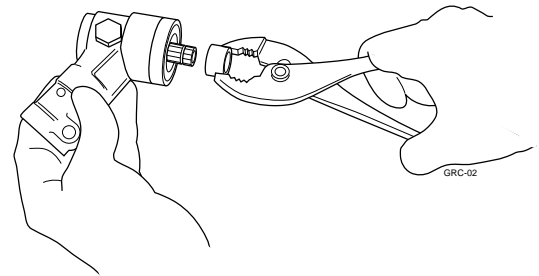

Figure 11.2 Removing the shaft collar.
STEP 1. Remove the cutting attachment and blade holders. Use slip-joint pliers to withdraw the shaft collar (Figure 11.2).